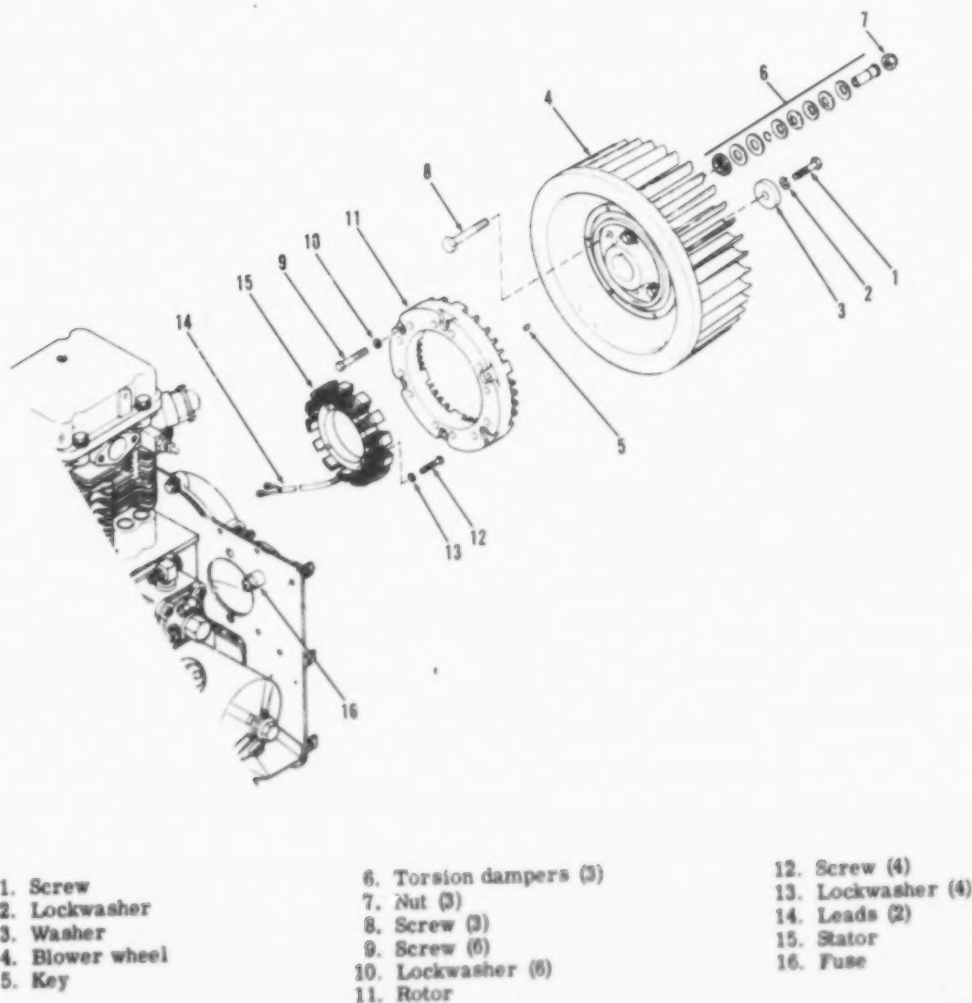

Figure 7-7. Battery Charge Alternator and Blower Wheel
a. Inspect (see figure 7-7).
(1) Refer to Operator/Crew and Organizational Maintenance Manual and remove blower housing.
(2) Check blower wheel (4) for cracks or broken fins. Check for free play between blower wheel and hub. Replace torsion damper assemblies (5) if free play is present.
(1) Refer to Operator and Organizational Maintenance Manual and remove blower housing.
(2) Check stator wiring and voltage regulator wiring for loose connections or shorts. Check fuse F1 (16).
(1) Rotor. Refer to Operator and Organizational Maintenance Manual and remove the blower housing. Remove blower wheel assembly (4, figure 7-7) per paragraph 7-7. Remove rotor mounting screws (9) and lockwashers (10) attaching rotor (11) to blower wheel (4) and remove rotor (11).
(2) Stator. Disconnect stator leads (14, figure 7-7) from terminal block on engine back plate. Remove wire clamp from oil filter casting. Remove screws (12) and lockwashers (13) attaching stator (15) to engine and remove stator (15).